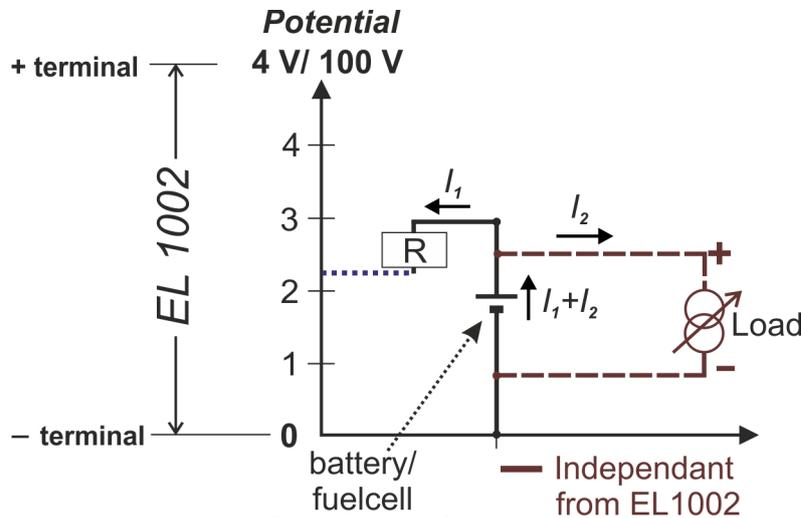

Fig. 22: One-quadrant representation of a battery or fuel cell connected to the EL1002 and a parallel external load.
Fig. 22 illustrates the two independent current loops for the parallel connection of the EL1002 and an external load with the DUT in the one-quadrant representation. Here, the current flowing through and controlled by the external load (I_2) does not flow through the EL1002 and the current limitations valid for the EL1002 do not apply to I_2 . In this configuration, the EXT + terminal of the EL1002 is not in use. The resistance (R) in Fig. 22 represents the voltage drop in the EL1002 current loop during operation.